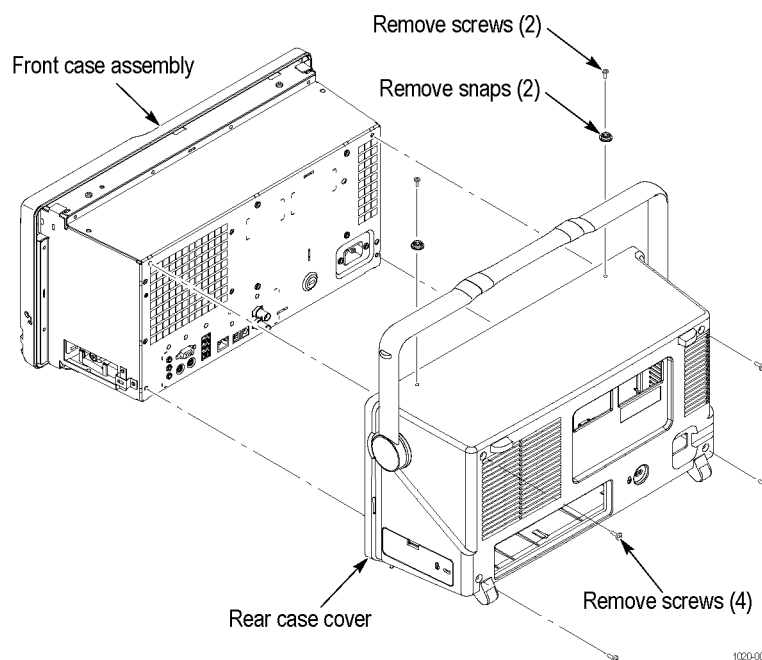

Figure 5: Removing the rear case cover
2. Remove the four T-15 TORX screws that secure the rear cover to the front case assembly. (See Figure 5.)